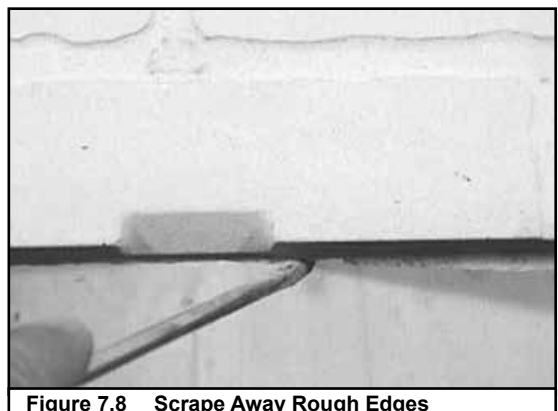

Figure 7.8 Scrape Away Rough Edges
- Remove shipping brackets as shown in Figure 7.8. Replace the screws removed from the fireplace.
**Note:** Before installing refractories and hearth stone, be sure all back edges of each piece are smooth to ensure proper fit. Scrape away excess with a regular screwdriver. See Figure 7.8.